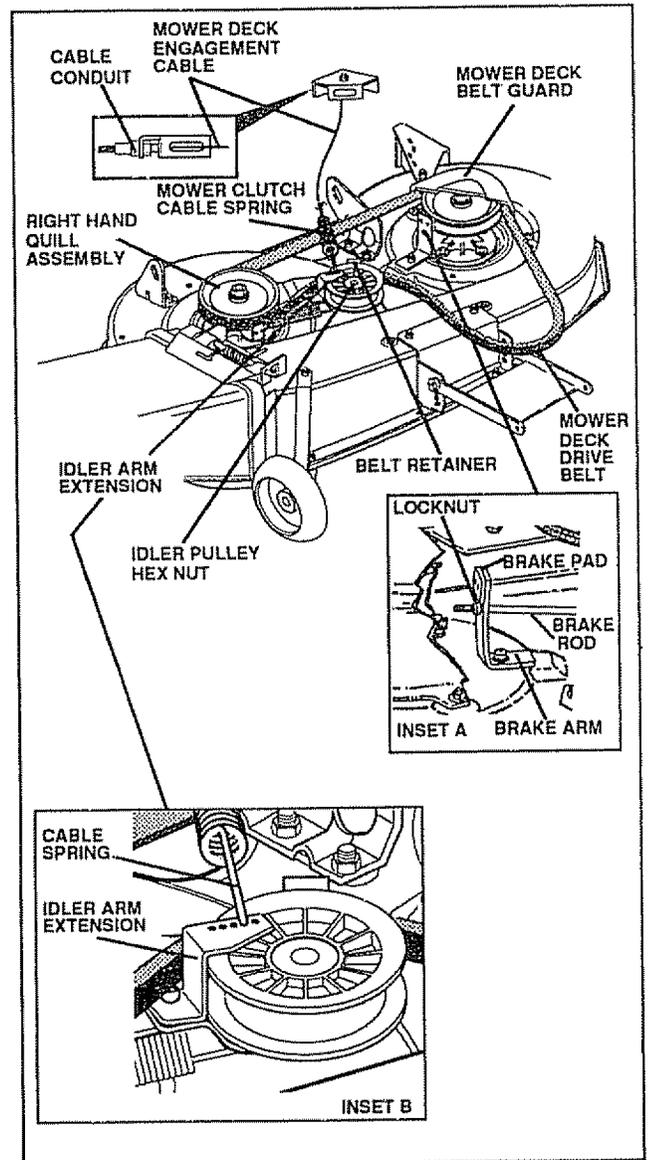

Fig. 28
### TO ADJUST BLADE DRIVE BELT (See Fig. 28)
### BLADE BRAKE ADJUSTMENT (See Fig. 28)
- Note which one of five holes on front of idler arm extension is used for attaching mower clutch cable spring (see Fig. 28, inset B).
- Locknut, on end of brake rod, should be approximately 1/8 inch from brake pad mounting bracket with left hand brake pad against pulley of left hand quill assembly (See Fig. 28, inset A).